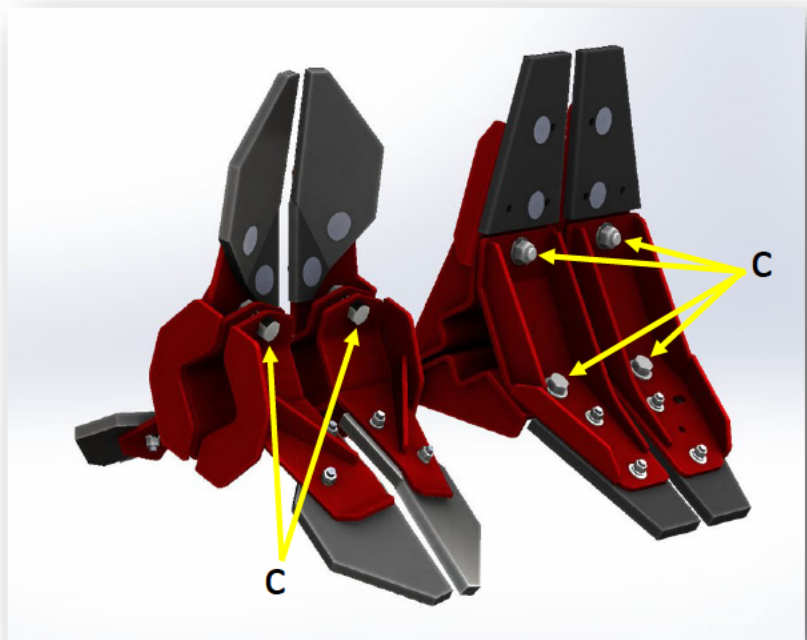

Figure 7-18: Standard Paddle and Hybrid Paddle Adjustment
- Loosen lock nuts (C), shown in Figure 7-18, on the paddle mounts.
- Tighten lock nuts (C).